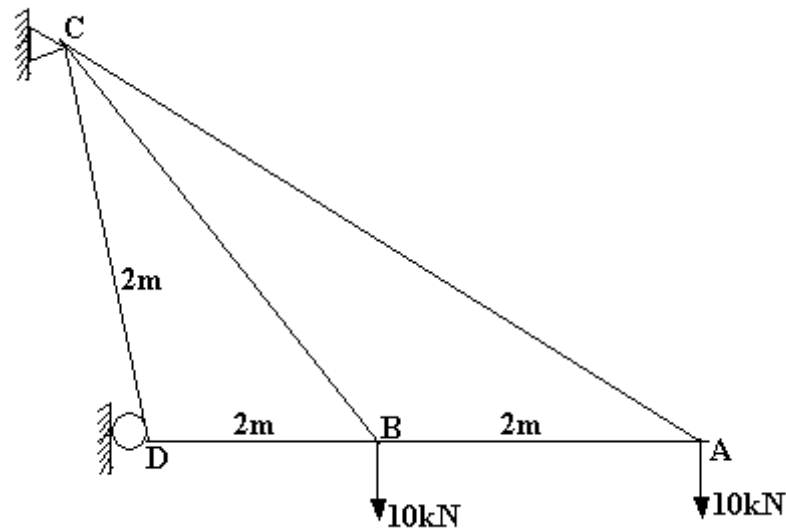

Figure 5
5. Find all the forces in the members of the truss as shown in the Figure 5. [16]